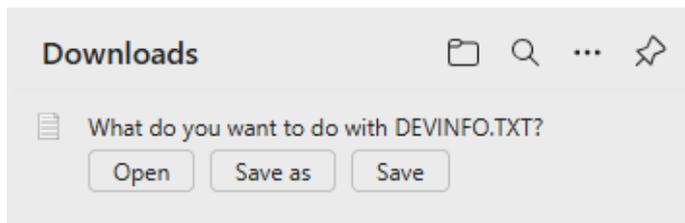

Figure 7-4 Downloads dialog
- ✧ In the **Downloads** dialog (refer to Figure 7-4), select the **Open** button.